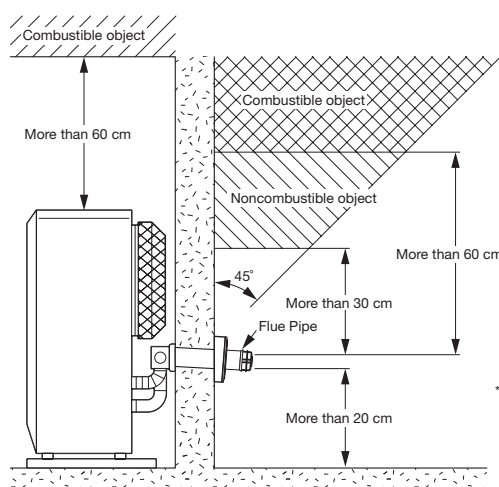

Fig. 2
2. Ensure the outdoor flue discharge area is clear of anything that might be affected by the hot flue exhaust gas. (See Fig. 2 and 3.)
The Flue Pipe (as in Fig. 2), is for wall thickness from 130 mm to 320 mm.